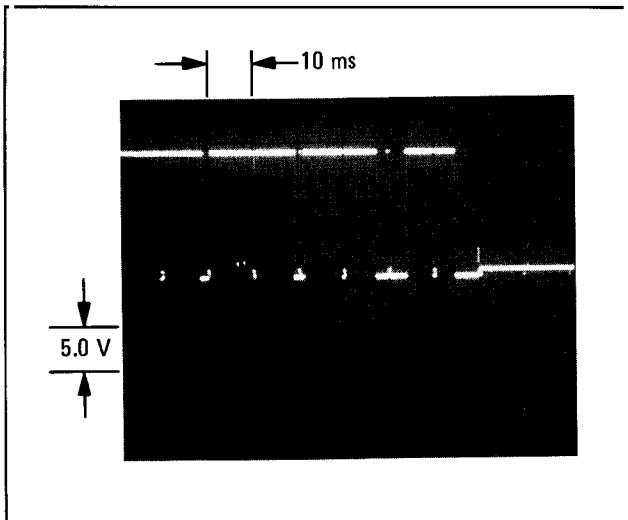

Figure 7. Display of Offset Comparator Output during FM Calibration Cycle (coupling is dc to J3-Pin 16 with external trigger from J2-Pin 10)
1. Increment the frequency up 10 MHz and check the oscilloscope displays, Figures 7 and 8 for typical FM calibration data.